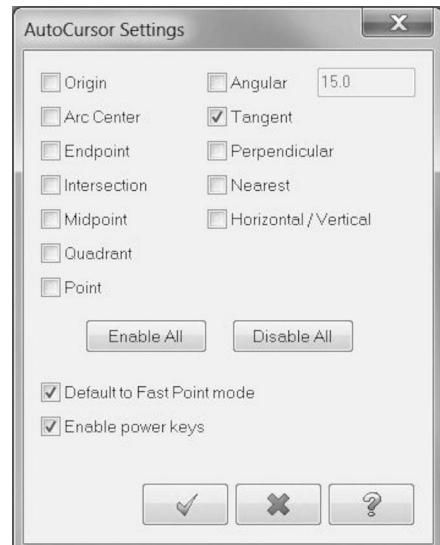

Figure 5-19 Auto Cursor Settings Dialog
28. Right-click the mouse while anywhere within the graphics display area and select Auto Cursor from the list (Figure 5-19). Press the Disable All button. Then place a checkmark to Enable only the Tangent setting; press the checkmark button to accept the changes.